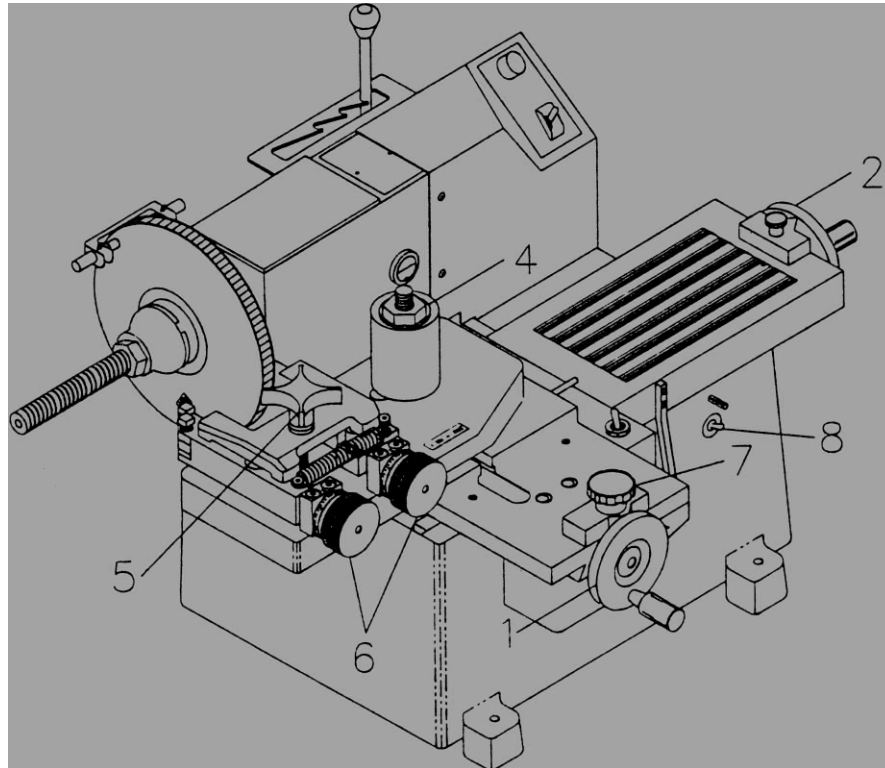

Fig. 9 Lathe controls for refinishing discs
- b. Rotate both cross-slide and main drive carriage feed handwheel(s) (1 and 2, figure 9) inward or outward to position the cutting tool bits so that the rotor is centered between them.
NOTE: Be sure the cutting tool bits will travel over the full surfaces of the rotor before the automatic feed switch (3, figure 9) shuts off and stops the travel of the carriage.
- c. Tighten rotor turning attachment center post locking nut firmly (4, figure 9)
- b. Turn the cross-slide carriage feed handwheel (1, figure 9) and move carriage in until the cutting tool bits are positioned over the braking surfaces of the rotor.
- c. Turn tool positioning knob (6, figure 9) on one side, until the cutting tool bit touches the surface of the rotor. Set the cutting tool bit on the other side of the rotor the same way.
E With depth of cut set, tighten the tool holder clamp screw (5, figure 9)
F Tighten the carriage feed locking knob (7, figure 9). After initial setup, tighten all locks and turn the automatic carriage feed switch "ON" (3, figure 9)